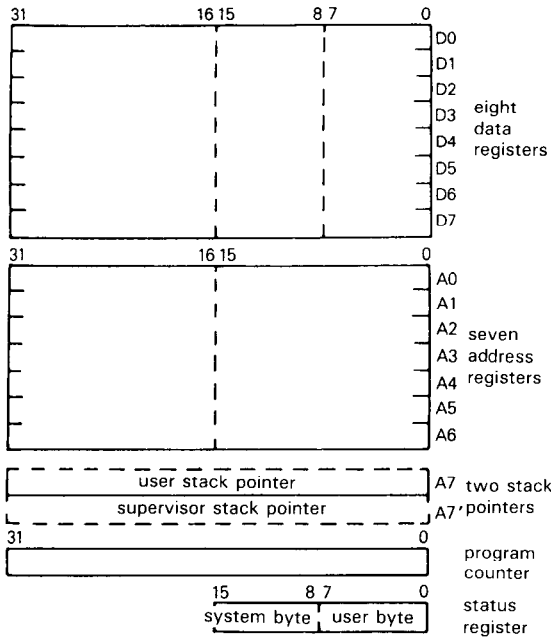

Figure 11.1. 68000/8 registers.
Figure 11.1 shows the internal registers of the 68000 (we will use “68000” to refer to features that are common to the 68000 and 68008). There are 8 *data registers* and 7 *address registers*, all of which are completely general-purpose; this contrasts with the 8086/8, in which AX (AL) must be used for I/O, DX for port addressing, etc. The *data registers* can hold bytes (8 bits), “words” (16 bits), or “longs” (32 bits), with the data type in any given operation specified in the assembly-language instruction itself (see below). You do your computation and byte-pushing in the data registers.